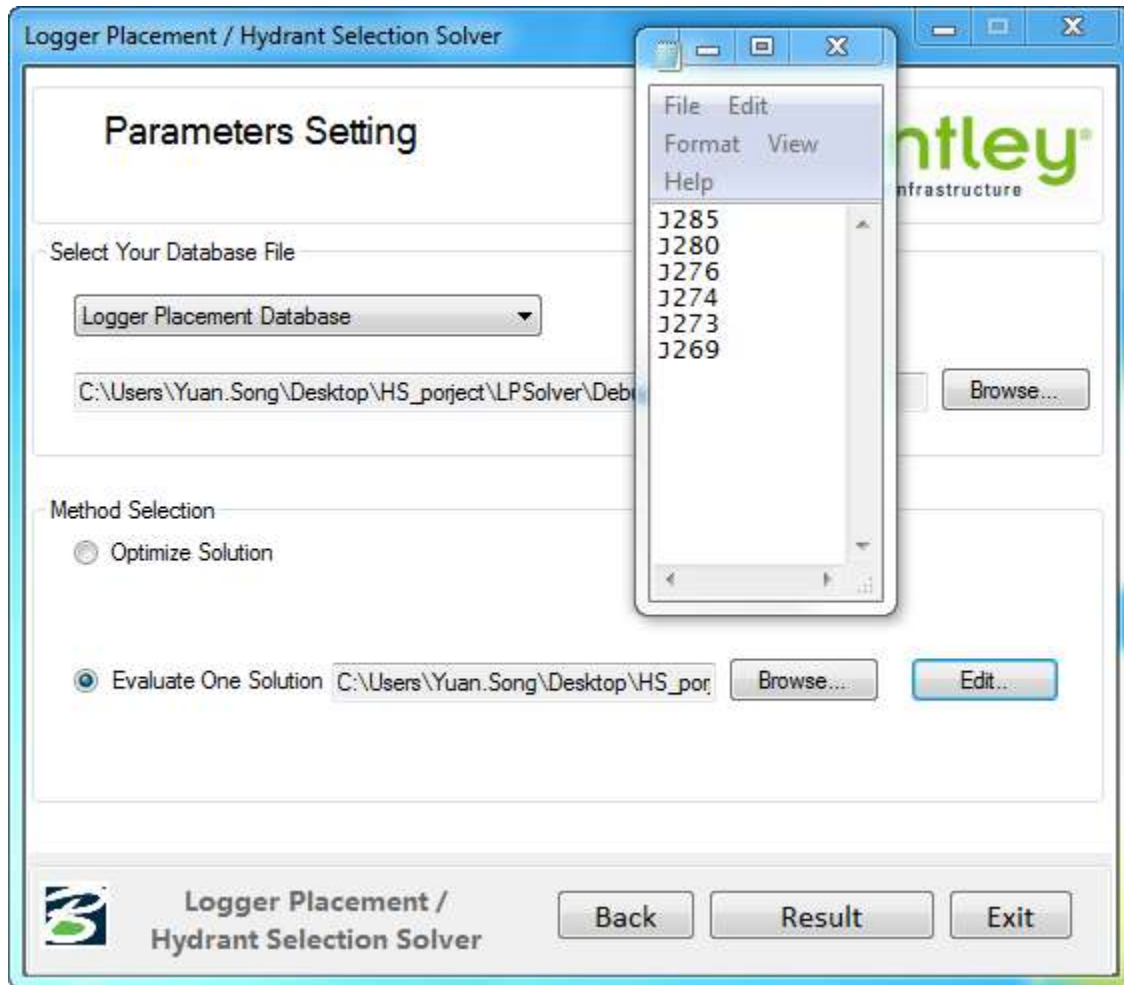

Figure 7 <Parameters Setting> page – Evaluation One Solution
- b. **Evaluate One Solution.** If this option is selected, user needs to specify the number and locations of pressure loggers manually. The program will compute the result based on the database and show the result on <Result> page when <Result> button is clicked. A textbox and two new buttons will show to help user with manual input as shown in Figure 7. A manual input file is a text file containing the labels of junctions where pressure loggers are installed with one label per line. User can use <Browse> button to open the manual input file and <Edit> button to edit the file. If <Edit> button is clicked before any file is selected, a default empty file is created for user to edit. The text file must be saved before exiting the editor to be effective. User can click on the <Result> button to see the result of event coverage result corresponding to the input file.